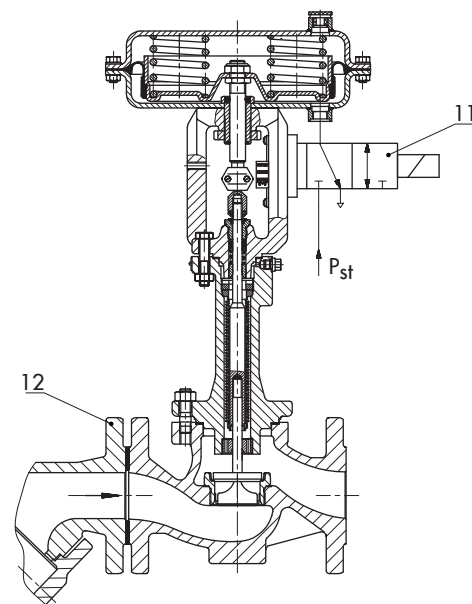
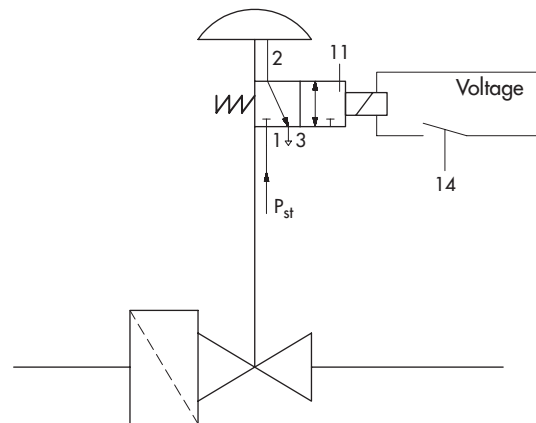
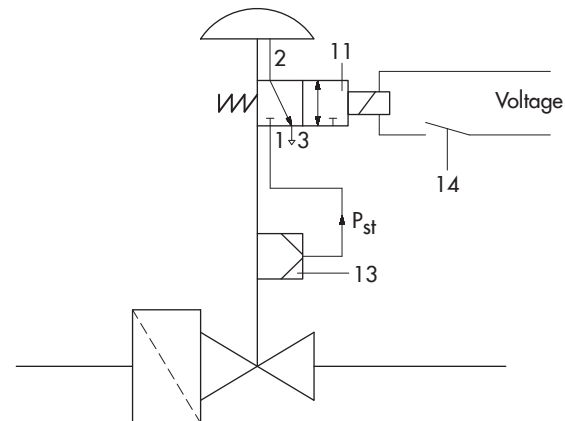

Fig. 2: Type 3241-1-Gas Automatic Shut-off Valve
Fig. 3: Functional diagram showing version without positioner
Fig. 4: Functional diagram showing version with positioner
The signal pressure p_{st} is applied to the pilot valve (11) whose coil is connected to the safety interlock circuit (switch 14, Fig. 3 and Fig. 4). During operation, the coil is energized and the signal pressure p_{st} acts on the diaphragm. In the event of a malfunction, the pilot valve is activated and the pressure acting on the diaphragm is relieved, causing the control valve to close quickly.
Legend for Fig. 2 to Fig. 4